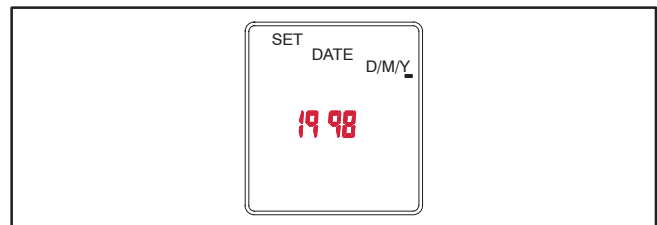

FIGURE 6. SETTING THE YEAR
- 2.. Press the selector button (⤵) to select **DATE** and then press the **OK** button. The current year is displayed flashing and D/M/Y is displayed with the “Y” underlined (see Figure 6).